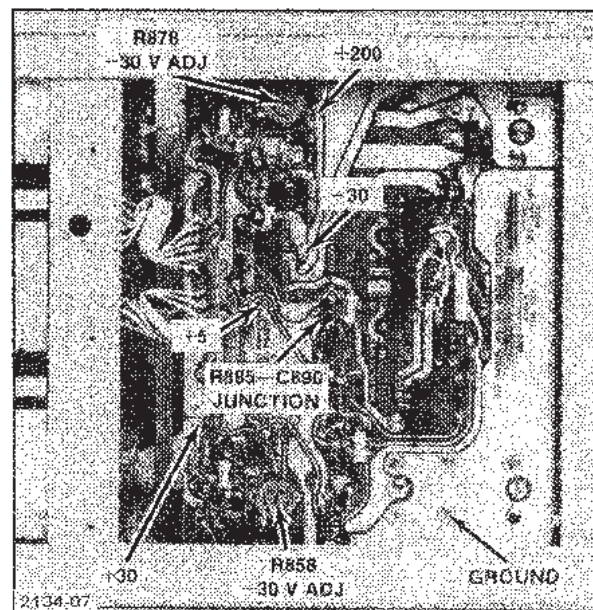

Fig. 3-1. Locations of power-supply test points and adjustments.
- Connect the digital voltmeter between the -30 V test point and ground. See Fig. 3-1 for voltage test point location.
- Adjust -30 V Adj R878 for a meter reading of exactly -30 volts. See Fig. 3-1 for adjustment location.
- Connect the digital voltmeter between the +30 V test point and ground. See Fig. 3-1 for voltage test point location.
- Adjust +30 V Adj R858 for a meter reading of exactly +30 volts. See Fig. 3-1 for adjustment location.
- Connect the digital voltmeter between the +5 V test point and ground. See Fig. 3-1 for voltage test point location.
- Connect the digital voltmeter between the +200 V test point and ground. See Fig. 3-1 for voltage test point location.
- Connect the digital voltmeter between the CALIBRATOR current loop on the front panel, and a ground test point. See Fig. 3-1 for ground test point location.
b. Apply a ground connection (short circuit) between the junction of R885 and C890, and a ground test point. See Fig. 3-1 for the junction and ground test point locations.